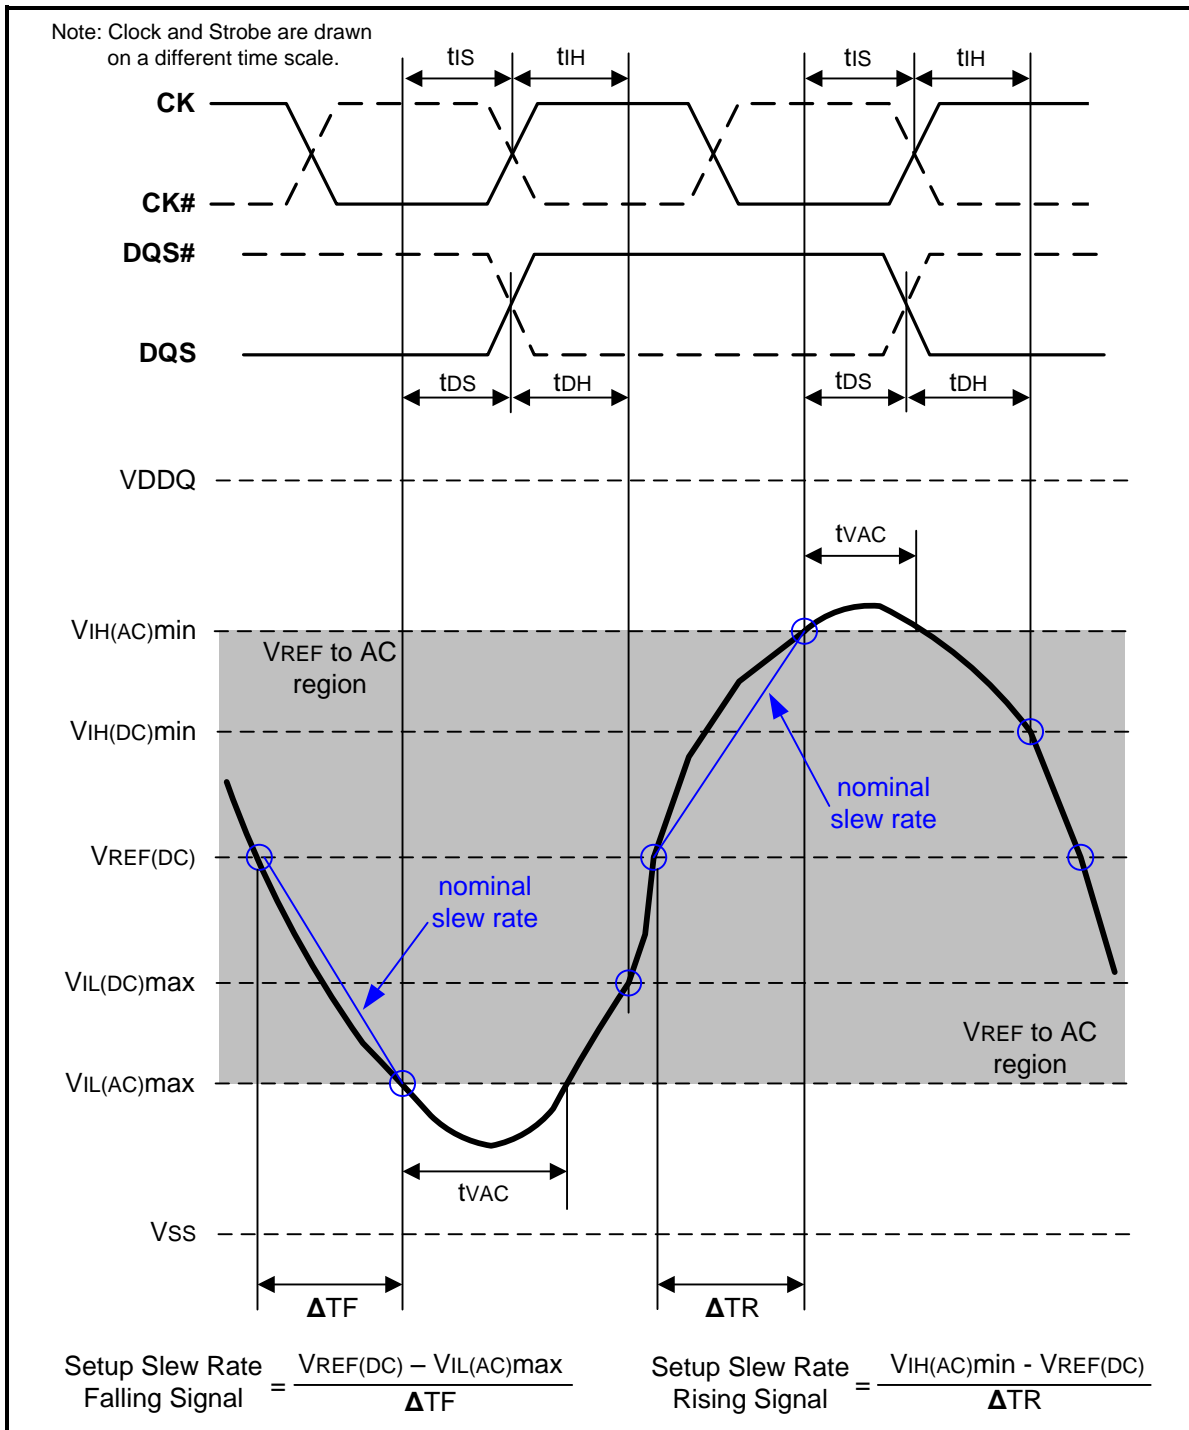
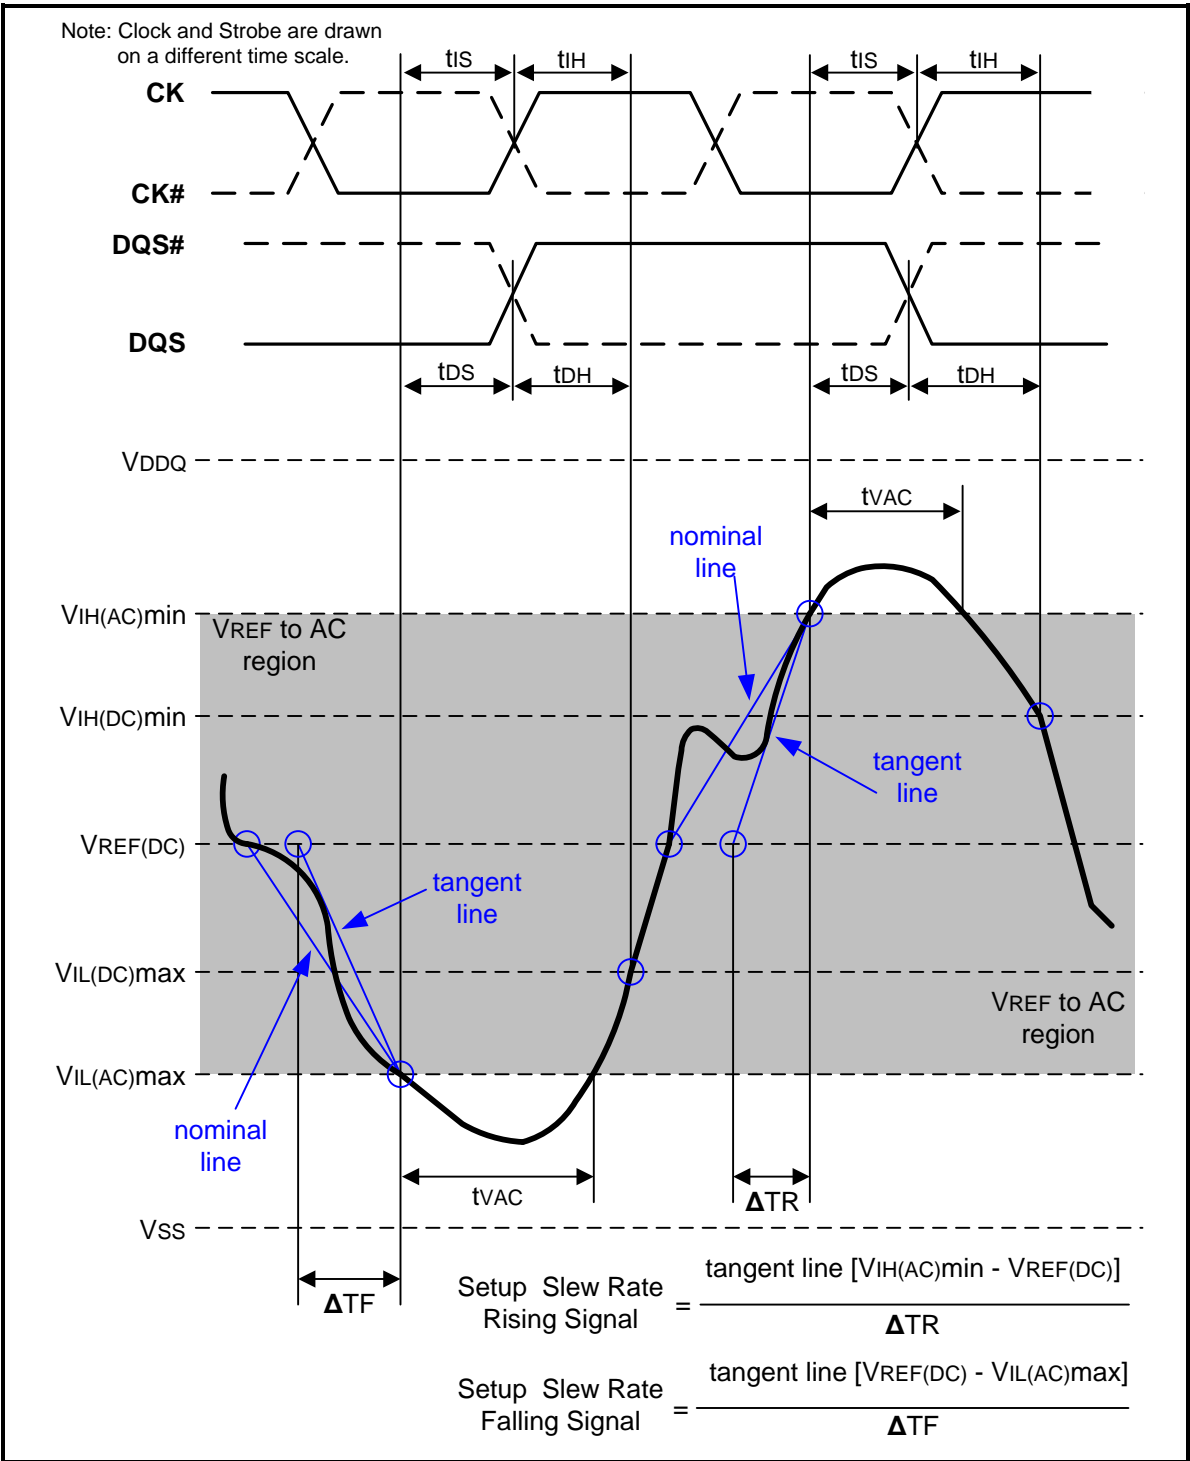

Figure 107 – Illustration of nominal slew rate and tvAC for setup time tDS (for DQ with respect to strobe) and tIS (for ADD/CMD with respect to clock)
Figure 109 – Illustration of tangent line for setup time  $t_{DS}$  (for DQ with respect to strobe) and  $t_{IS}$  (for ADD/CMD with respect to clock)
Setup ( $t_{IS}$ ) nominal slew rate for a rising signal is defined as the slew rate between the last crossing of  $V_{REF(DC)}$  and the first crossing of  $V_{IH(AC)min}$ . Setup ( $t_{IS}$ ) nominal slew rate for a falling signal is defined as the slew rate between the last crossing of  $V_{REF(DC)}$  and the first crossing of  $V_{IL(AC)max}$ . If the actual signal is always earlier than the nominal slew rate line between shaded 'VREF(DC) to AC region', use nominal slew rate for derating value (see Figure 107). If the actual signal is later than the nominal slew rate line anywhere between shaded 'VREF(DC) to AC region', the slew rate of a tangent line to the actual signal from the AC level to  $V_{REF(DC)}$  level is used for derating value (see Figure 109).
Setup (tDS) nominal slew rate for a rising signal is defined as the slew rate between the last crossing of VREF(DC) and the first crossing of VIH(AC)min. Setup (tDS) nominal slew rate for a falling signal is defined as the slew rate between the last crossing of VREF(DC) and the first crossing of VIL(AC)max (see Figure 107). If the actual signal is always earlier than the nominal slew rate line between shaded 'VREF(DC) to AC region', use nominal slew rate for derating value. If the actual signal is later than the nominal slew rate line anywhere between shaded 'VREF(DC) to AC region', the slew rate of a tangent line to the actual signal from the AC level to VREF(DC) level is used for derating value (see Figure 109).